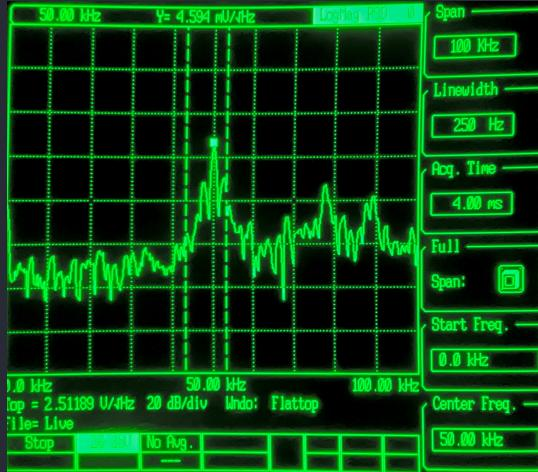

Figure 2.10: Increasing LO frequency.
- Changing the LO frequency moves the large amplitude carrier frequency (and its program content) to the left or right on the 770 i.e. the target RF frequency will be downconverted to a lower frequency  $f_c = f_{RF} - f_{LO} = 850 - 800 = 50 \text{ kHz}$  as shown in Fig. 2.10.